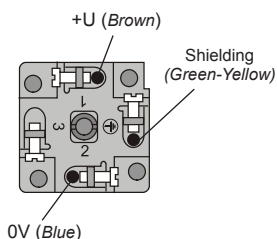
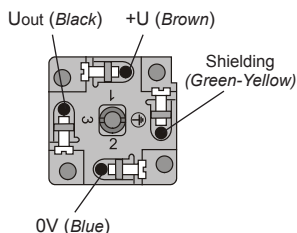

Fig. 10: Connection scheme with current output
Fig. 12: Connection scheme with voltage output
4. Connect the cable wires to the screw terminals as shown in Fig. 10 (current output 4-20 mA) or Fig. 12 (voltage output 0-10 V). Tighten the terminals firmly.